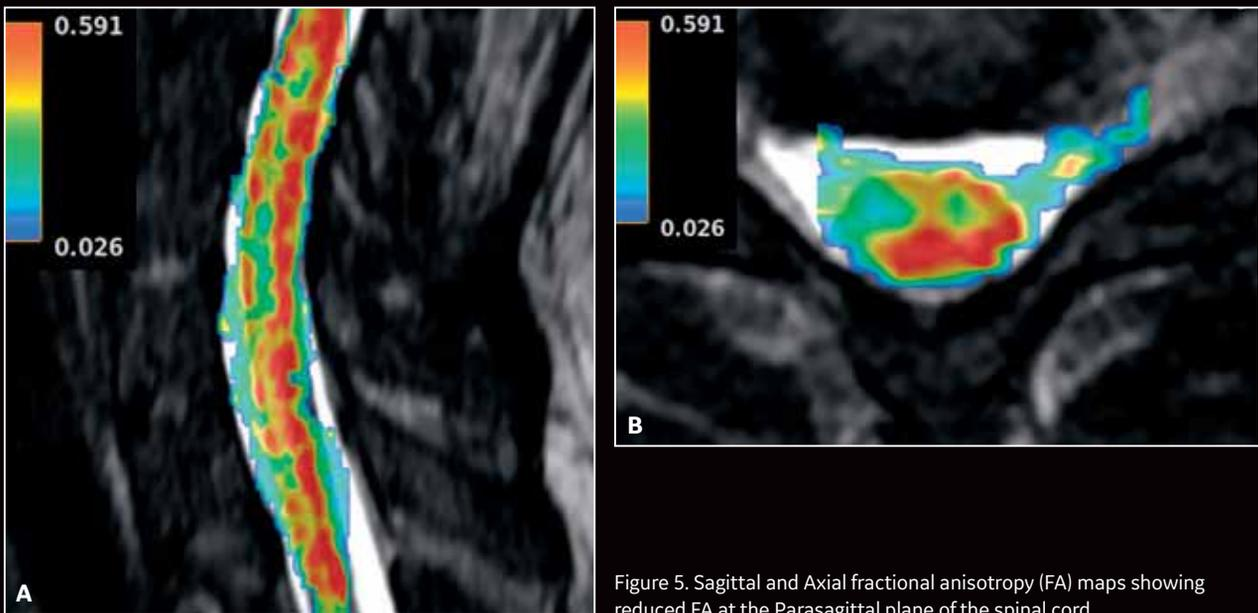

Figure 5. Sagittal and Axial fractional anisotropy (FA) maps showing reduced FA at the Parasagittal plane of the spinal cord.
DISCO was used for ultra-high temporal and spatial resolution and Gen IQ produced accurate permeability maps. For post-processing, READYView was used for seamless 2D/3D image fusion and PROView was brought in for multi-parametric assessment and PI-RADS™ V2 reporting (Figures 5 and 6).
Figure 5. (A) DISCO provides ultra-high temporal and spatial resolution. (B) Signal intensity/time curves. (C) READYView for seamless 2D/3D image fusion of Axial T2 and K-trans permeability map.
Sagittal and Axial fractional anisotropy (FA) maps showed reduced FA at the Parasagittal plane of the spinal cord (Figure 5).